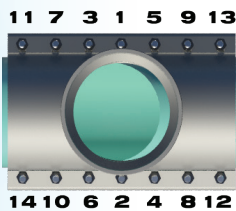

Figure 5
- 8) Using a torque wrench, tighten nuts in proper pattern. Tightening pattern is shown in Figure 5. Repeat tightening pattern in no more than 25 ft. lb. increments until recommended torque is reached.